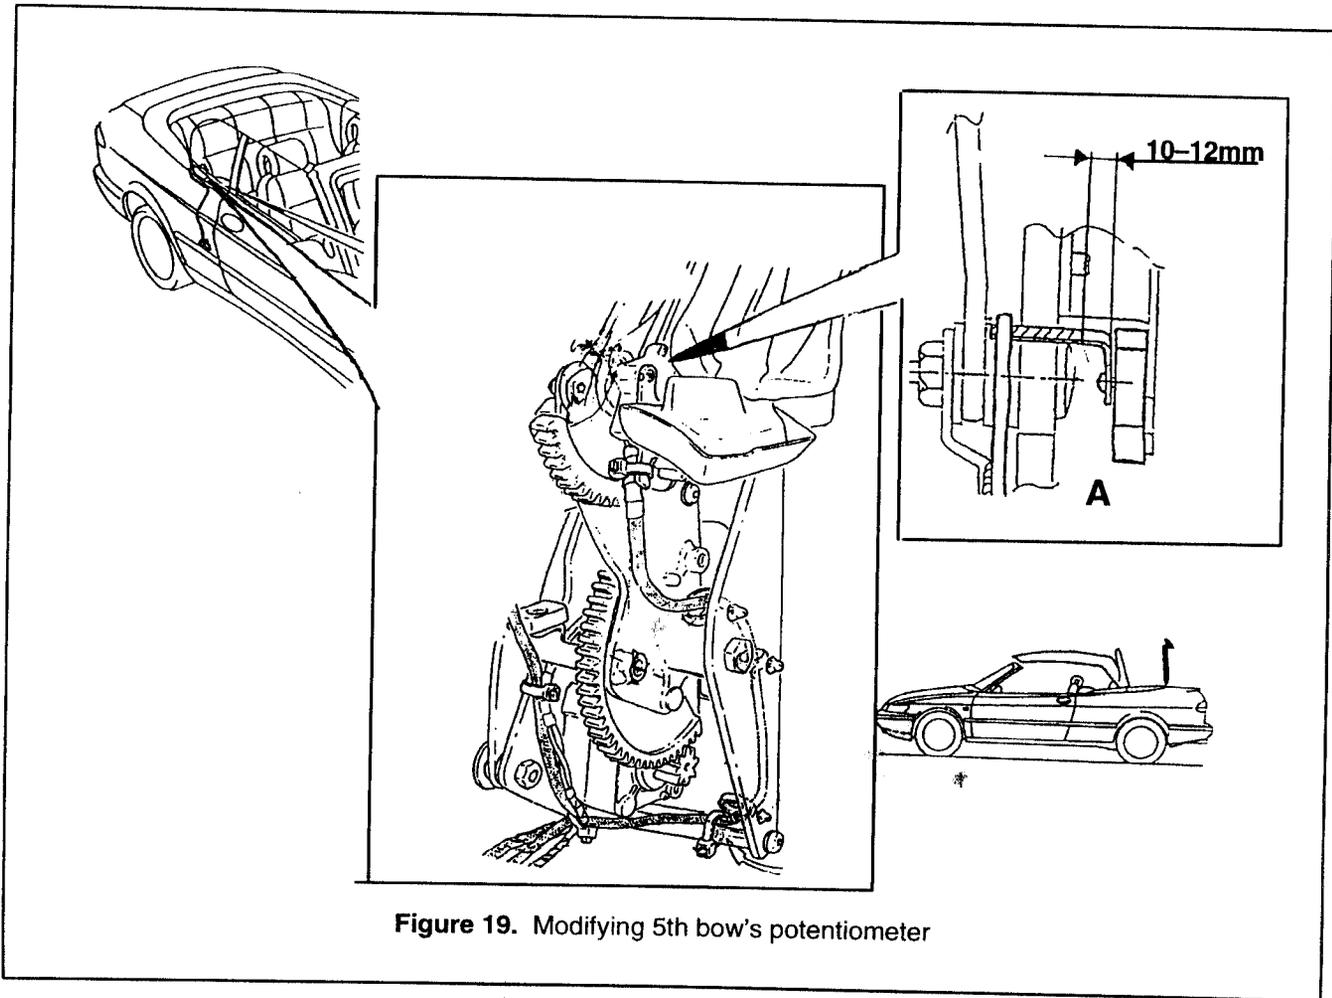

Figure 19. Modifying 5th bow's potentiometer
- d. Hold the 5th bow's potentiometer arm steady and carefully cut it off as shown in Figure 19 below. Use a sharp pair of side cutters. See Figure 19.A.